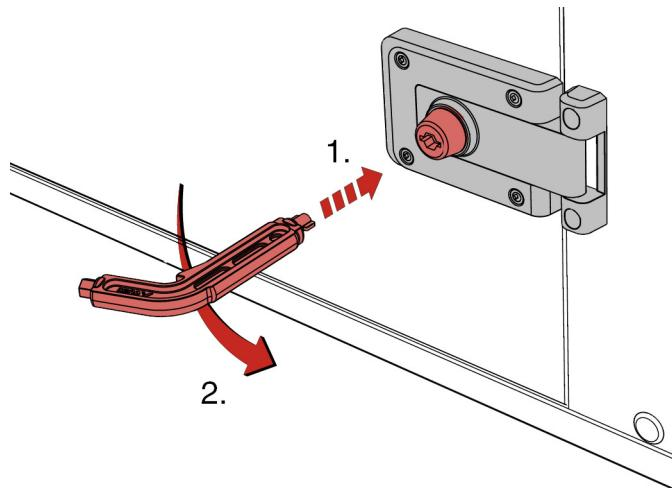

Fig. 50: Open lock
2. ▶ Turn the key or the operating lever 90° anti-clockwise (Fig. 50).